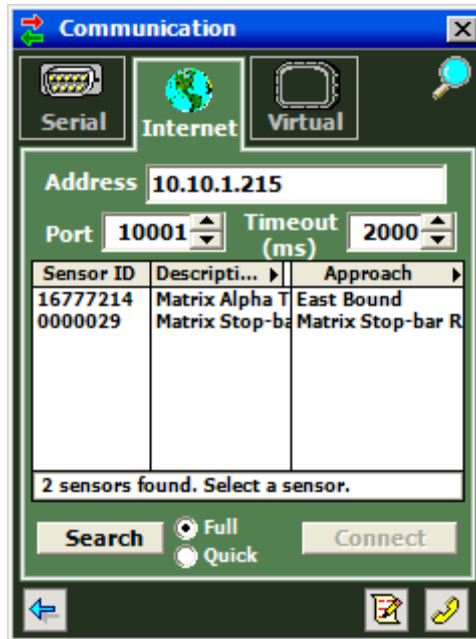

Figure 4.4 – Internet Connection Screen
2. Click the **Internet** tab and the Internet setting options will appear (see Figure 4.4).